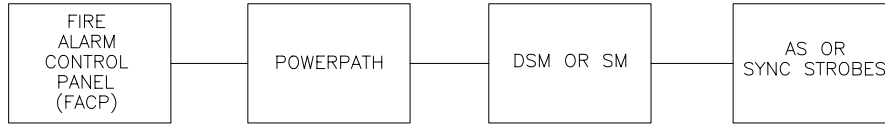

Figure 5: SM/DSM Single Line Diagram with POWERPATH
- Do not connect **POWERPATH** to the NAC after a Sync Module. Wheelock's DSM and SM Sync Modules may be used in conjunction with a PowerPATH ONLY IN THE ORDER SHOWN in Fig 5. Each output can use a Sync Module to drive audible or visual synchronized devices. Refer to Section 4.
- Do not connect **POWERPATH** to the NAC after a Sync Module. Wheelock's DSM and SM Sync Modules may be used in conjunction with a PowerPATH ONLY IN THE ORDER SHOWN in Fig 5. Each output can use a Sync Module to drive audible or visual synchronized devices.